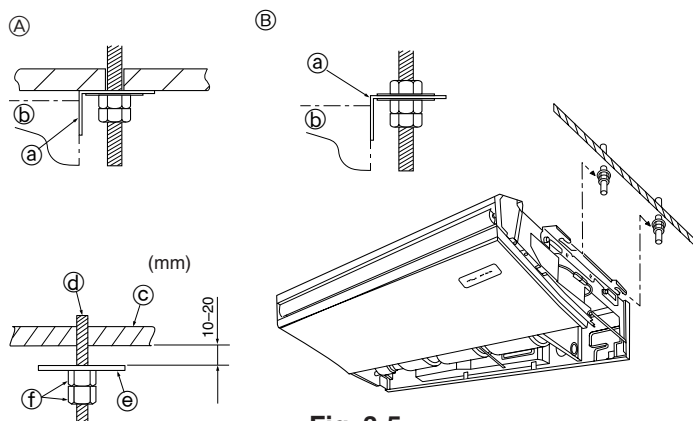

Fig. 3-5
② Forcing open the intake grille or opening it to an angle of more than 120° may damage the hinges.
3.3. Installing the indoor unit (Fig. 3-5)